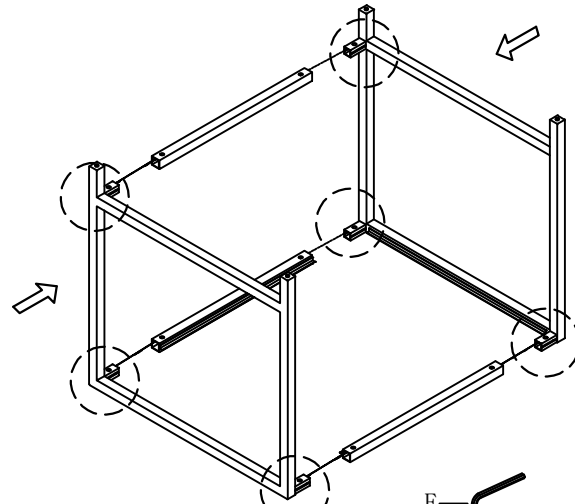

Figure 1
Step 1. Insert the stretcher into the side frames. Tighten Bolt by Allen Wrench (E) as shown in Figure 1.